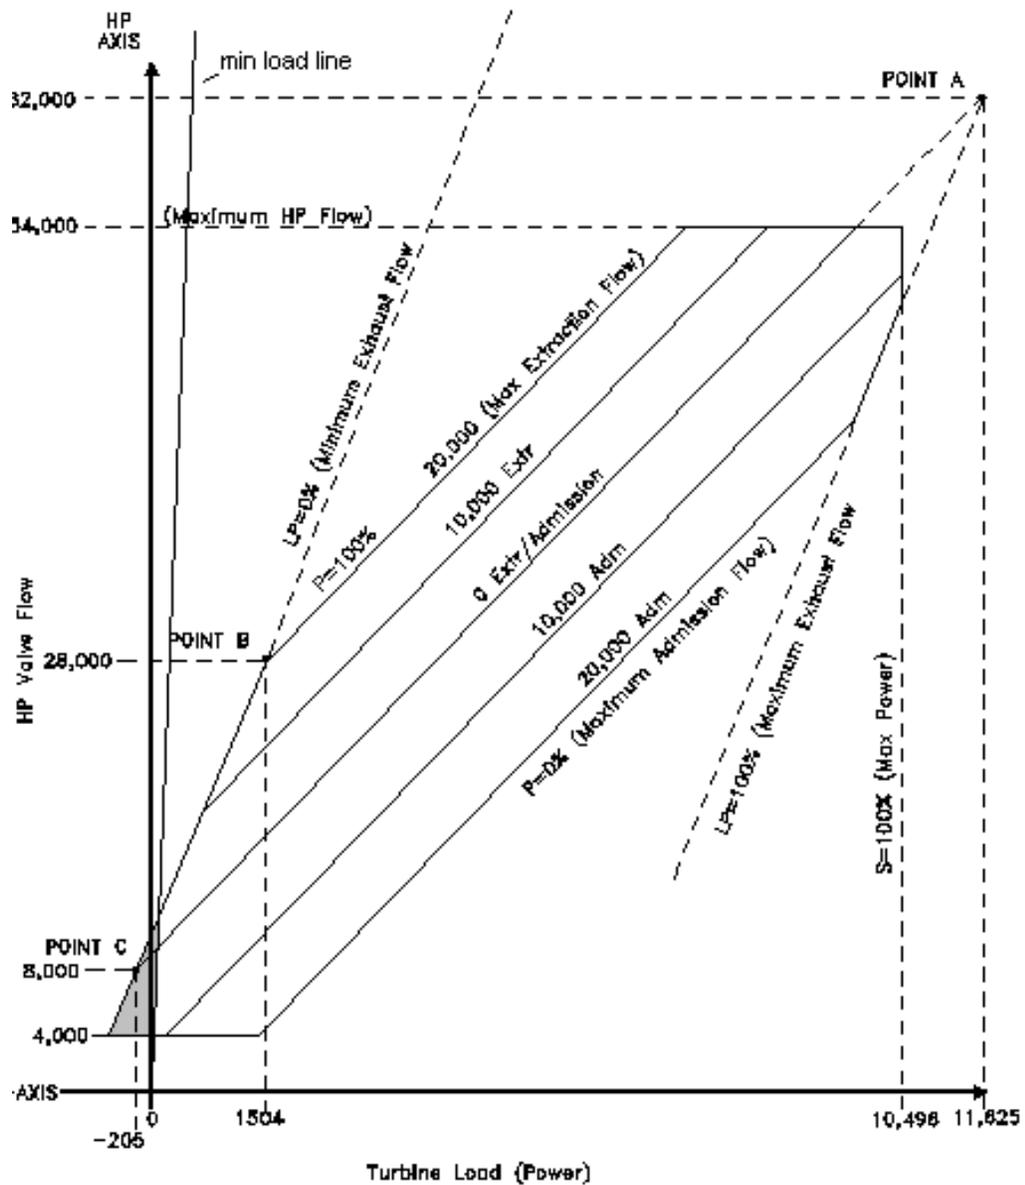

Figure 3-3. Typical Extraction & Admission Steam Map
**Extraction & Admission Steam Map**—Before a turbine's extraction/ admission steam map can be programmed into the control, it must have the intersection points A, B, & C (refer to figure 3-3).
If points B & C do not exist, your map will have to be modified to include points B & C. The LP=0 line will need to be created. To create the LP=0 line you must know the minimum required steam flow through the back-end of the turbine. In our example steam map (figure 3-3) the minimum required flow was 8,000 lbs/hr.
1. Extend the maximum extraction line. Refer to figure 3-3.
The ten values needed can be taken from the converted steam map. An example has been provided below, using the steam map in Figure 3-3: